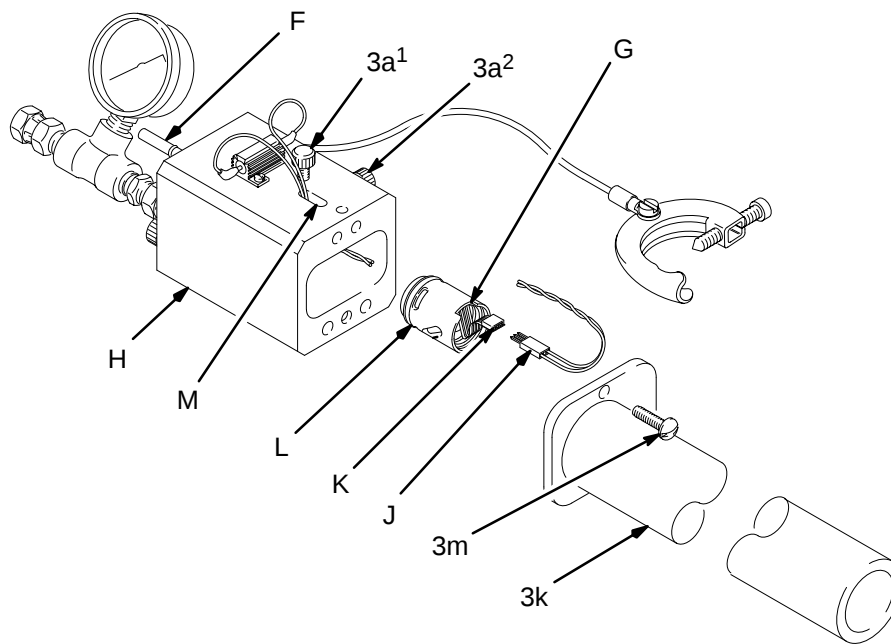

Fig. 3
3. Place the 3-pin connector (J) through the fixture slot (M) and connect it to the turbine alternator connector (K); the orientation does not affect the test. See Fig. 3.
5. Place the turbine alternator inside the fixture (H).
11. Remove the probe shroud (3k). See Fig. 3.
12. Disconnect the 3-pin connector (J) and loosen the locking screw (3a). See Fig. 3. Use the plunger (F) on the back of the fixture to push out the turbine alternator.